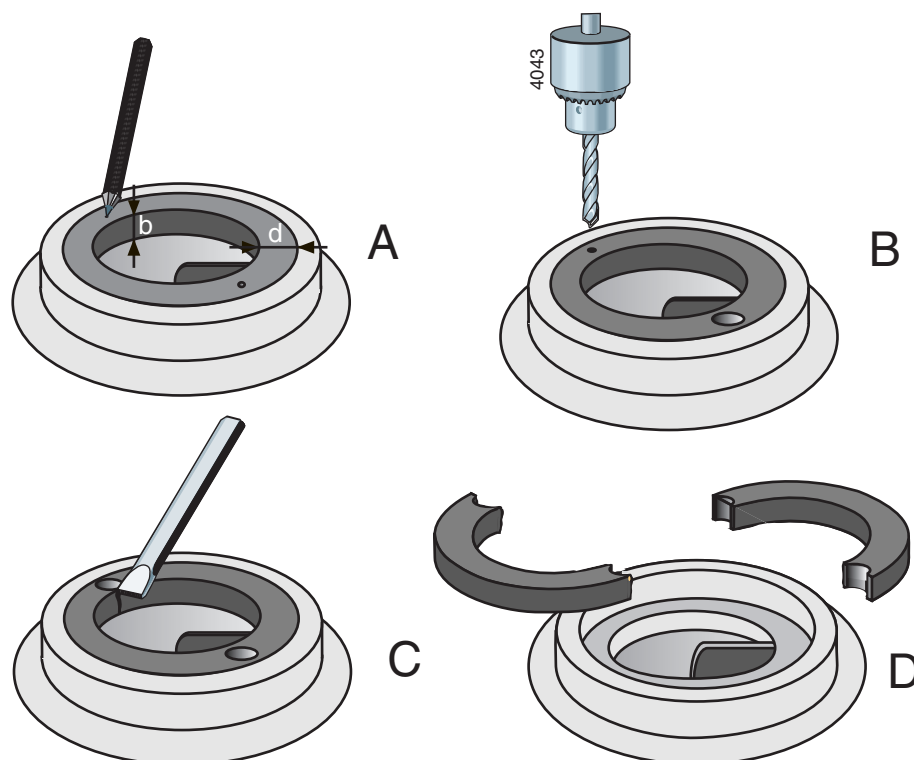

Figure 16: Removal of wear ring.
- 1 Measure the thickness (d) and the width (b) of the ring, see figure 16 A.
- 2 Make a centre hole in the middle of the edge of the ring at two opposite points, see figure 16 B.
- 3 Use a drill with a diameter just a little bit smaller than the thickness (d) of the ring and drill two holes in the ring, see figure 16 C. Don't drill deeper than the width (b) of the ring. Take care not to damage the fitting edge of the pump casing.
- 4 Use a chisel to cut the remaining part of the ring thickness. Now you can remove the ring in two parts from the pump casing, see figure 16 D.